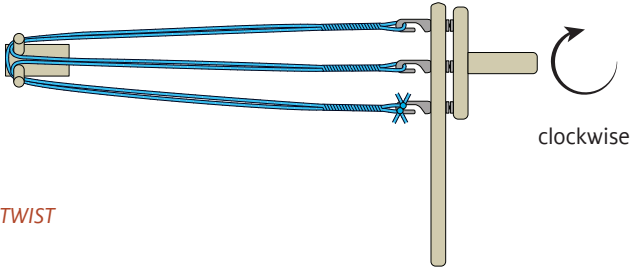

FIGURE 3: ADD TWIST
3. Add twist: Hold the yarn taut and turn the crank to the right (clockwise). As you crank, the 2 lines of yarn connected to each hook will twist around each other, forming the rope's plies—see Figure 3. To tighten the twist, turn the crank more times; there will be more take-up and you may have to move closer to the separator. Crank until the twist is as tight as you want: when you let the yarn slacken, each ply should kink back on itself. To make matching ropes, count the turns and use the same number for each one.